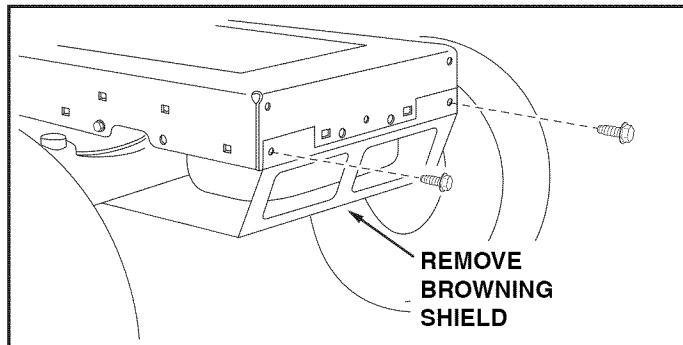

FIGURE 2
### STEP 1: (SEE FIGURE 2)
- Fasten the R.H. Side Plate (bend facing out) to the front three holes in the tractor frame using three 3/8" x 1" carriage bolts (H), three large 1/2" washers (N) (see note) and three 3/8" nylock nuts (M). For the rear hole, use a 5/16" x 1" carriage bolt (F), a large 1/2" washer (N) and a 5/16" nylock nut (L). Place the washers between the tractor frame and the side plate. Tighten all bolts. Repeat for L.H. side plate.
**NOTE:** If there is an engine mounting plate (shown with dotted lines) leave the large 1/2" washer (N) off the bolt that goes through the plate.
- Reinstall the browning shield removed in figure 2.